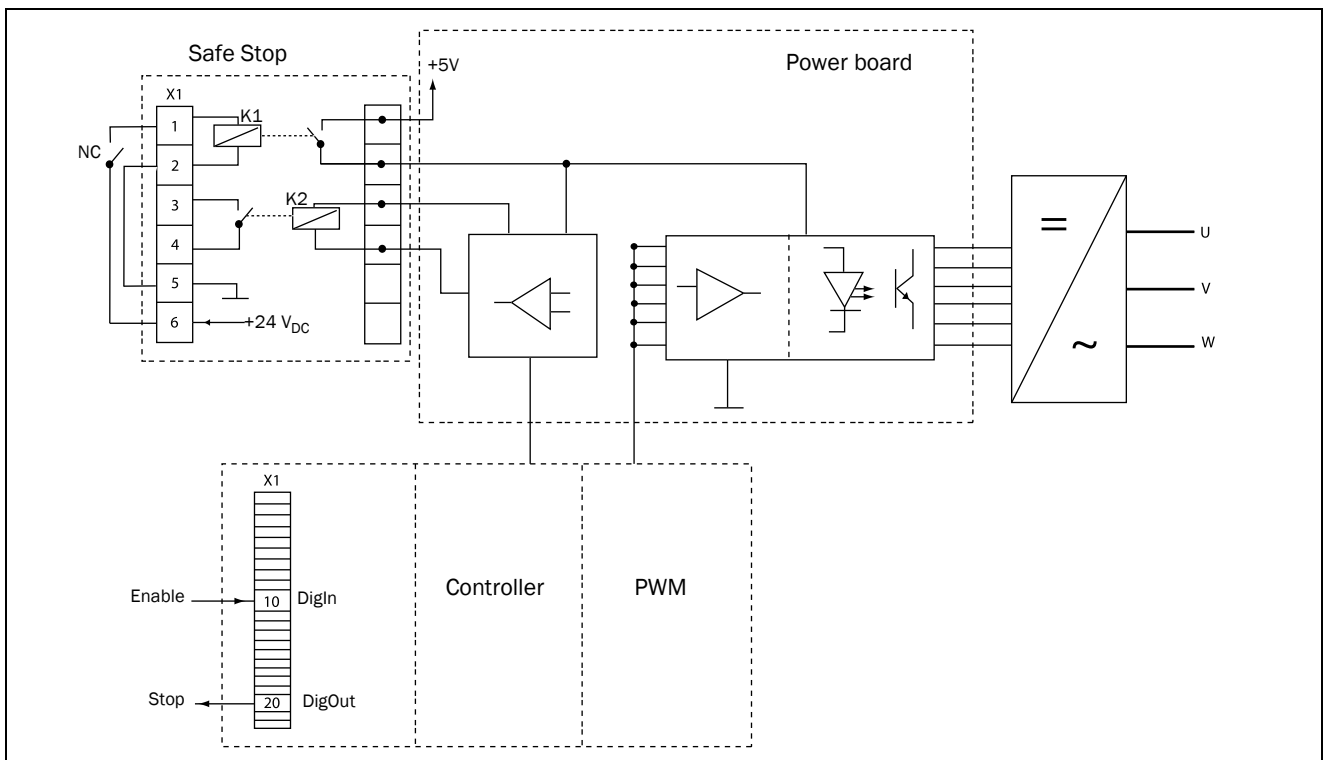

Fig. 173 Safe Stop connection
- "Inhibit" input, terminals 1 (DC+) and 2 (DC-) on the Safe Stop option board should be made active by connecting 24 V_{DC} to secure the supply voltage for the driver circuits of the power conductors via safety relay K1. See also Fig. 173.